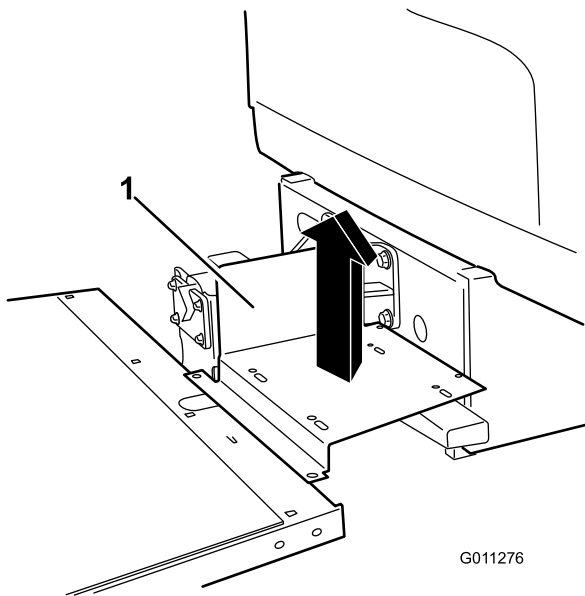

Figure 2
5. Remove the plate from the bottom of the frame and discard (Figure 2).